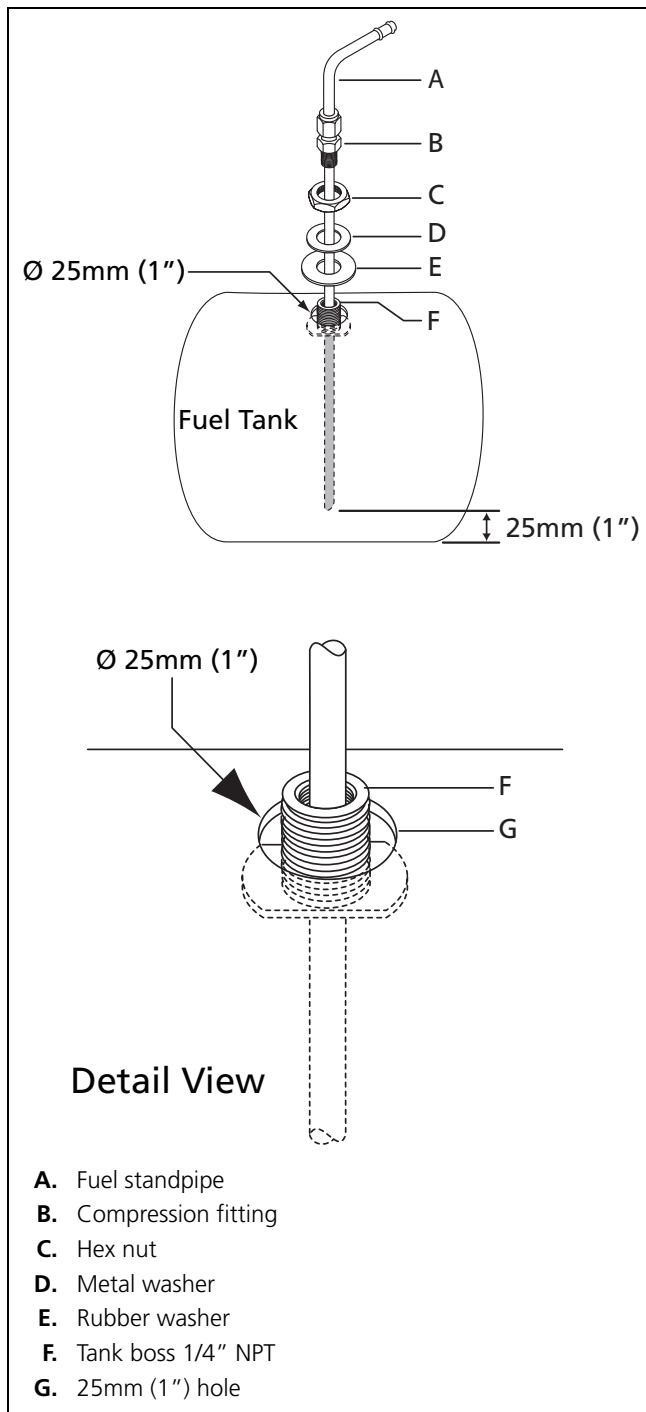

Figure 17: Webasto fuel standpipe
1. bore a 25mm (1") hole through top of fuel tank (item G, Figure 17).
4. loosely assemble items C, D, E, and F (Figure 17).
6. slide standpipe into hole at angle. Slip one shoulder of item F, Figure 17 inside the hole as shown in Figure 18.